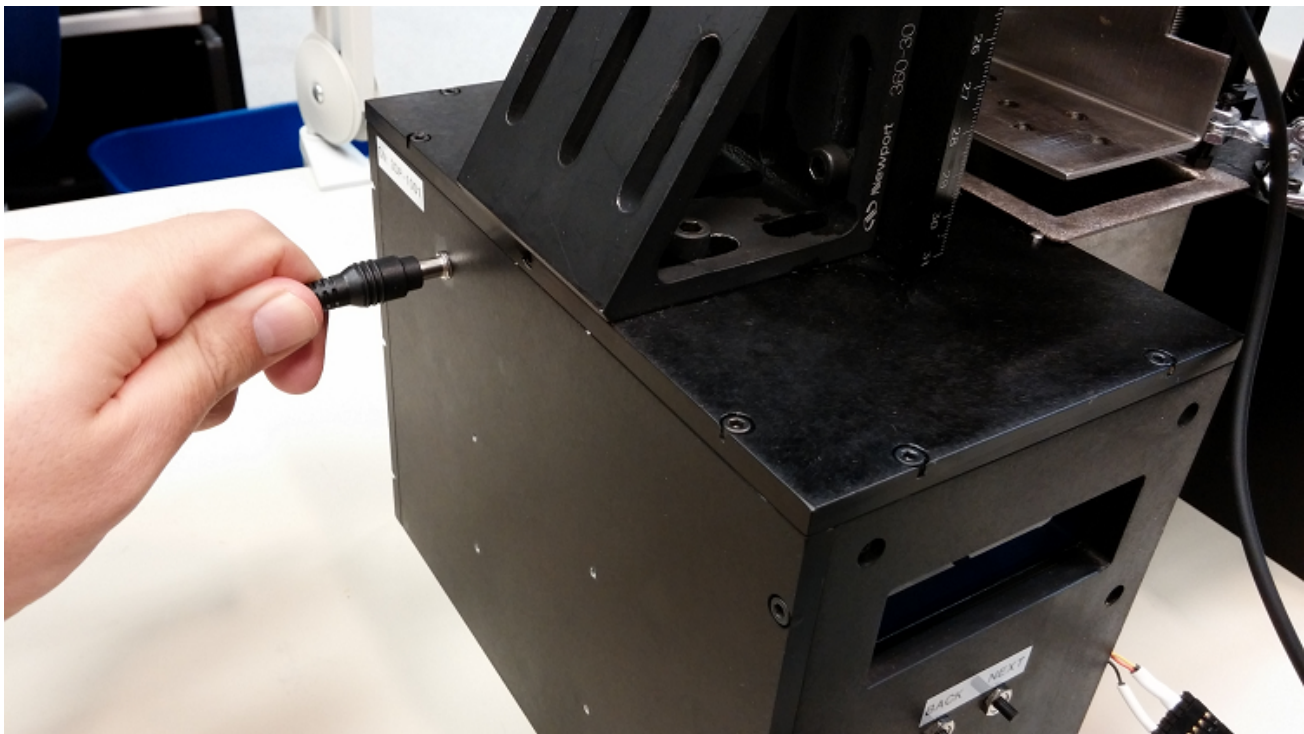

Figure 3-13. Connecting 12 V Power To The Printer
7. Plug the 12 V power supply into the jack on the side of the DLP 3D Printer, as shown in Figure 3-13.